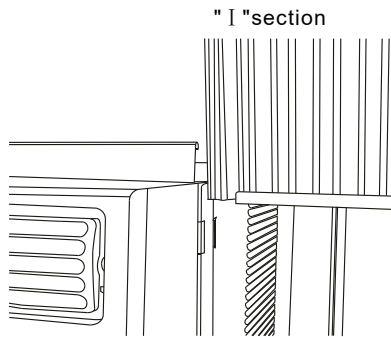

Fig.2
B. Slide the free end " I " section of the panel directly into the cabinet as shown in Fig. 2. Slide the panel down. Be sure to leave enough space to slip the top and bottom of the frame into the rails on the cabinet.